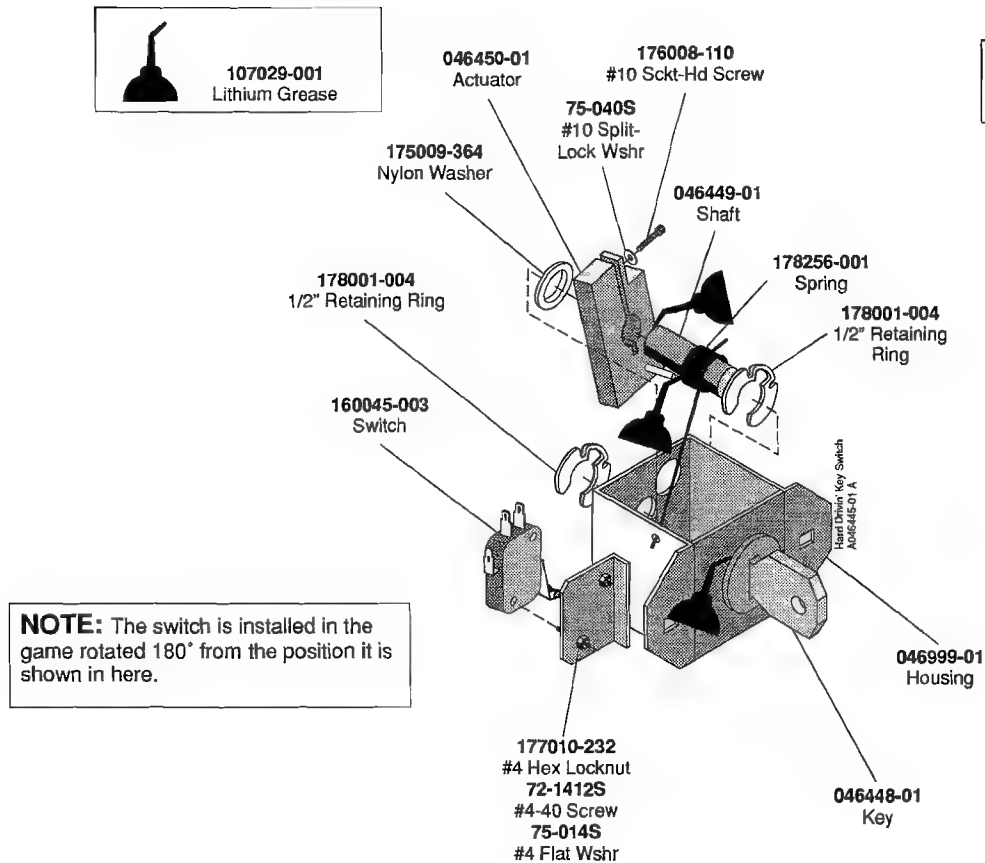

Figure 3-2 Maintaining the Key Switch
3. Lightly oil the shaft and spring of the key switch. See Figure 3-2. Check that the spring is not broken. If it is, then replace the spring following the procedure under *Replacing the Key Switch*.
3. Remove the retaining ring from the back of the key switch case. See Figure 3-2.
3. Adjust the actuator on the shaft until it is parallel to the roller on the switch. See Figure 3-2.
Replace the switch if the key turns but nothing happens and the problem is not the spring, the actuator, or the connections. The key switch assembly is shown in Figure 3-2.